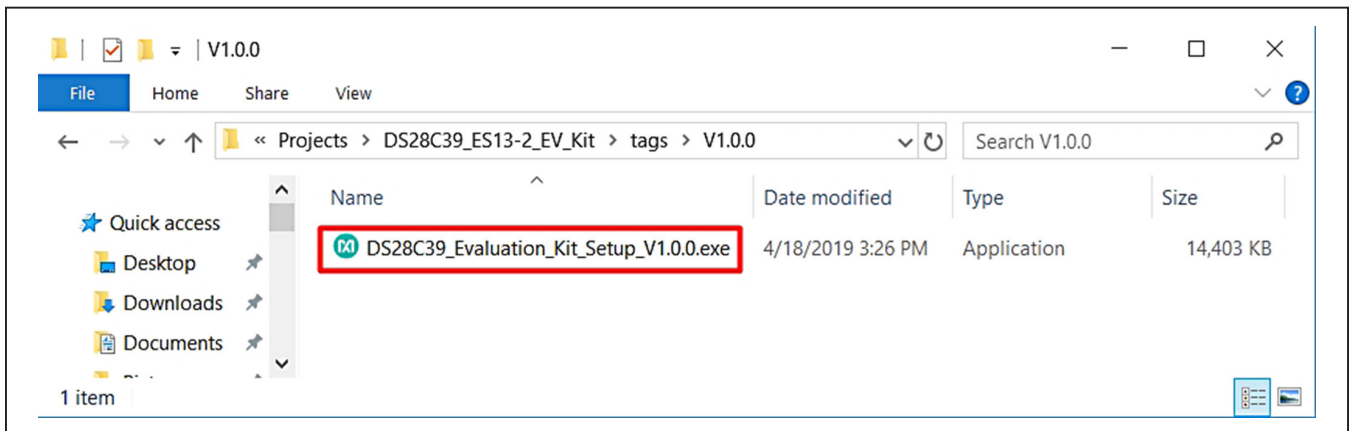

Figure 1. File Viewer
- 2) In a file viewer (Figure 1), double click on **DS28C39 Evaluation Kit Setup V1.0.0.exe** to begin the installation.